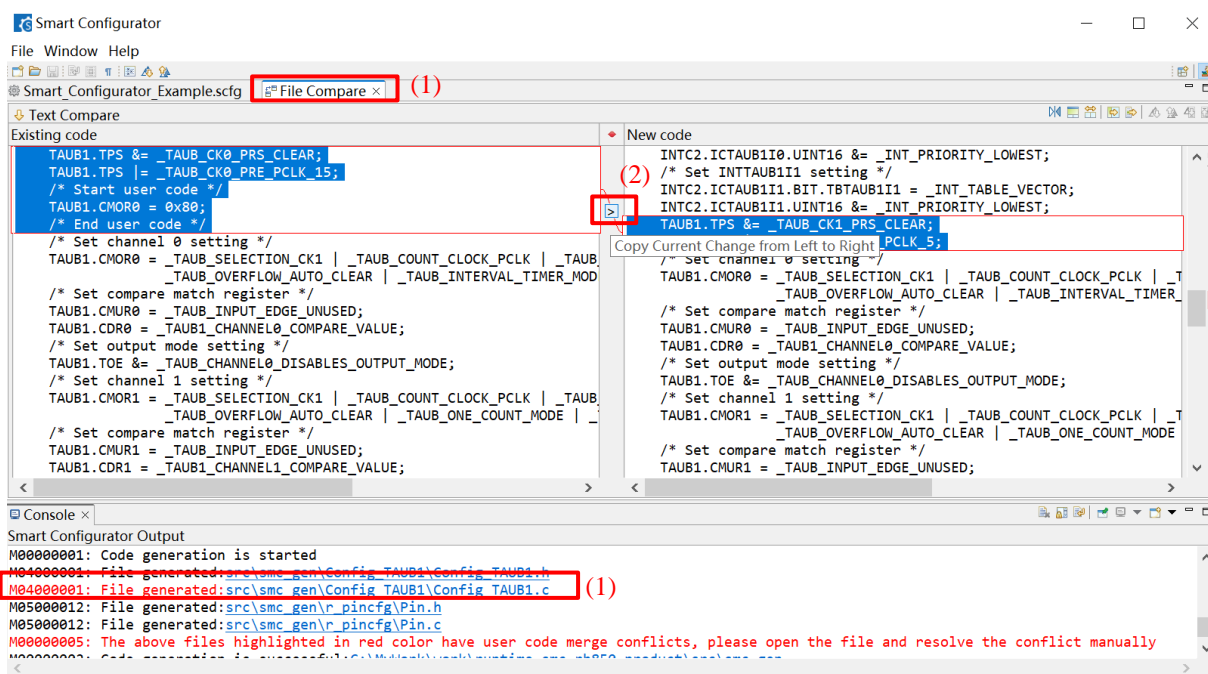

Figure 10-4 Code before resolving bitconf
- 1) Click on the conflicting file in the console to open the “File Compare” view (Figure 10-4 Code before resolving conflict).
- 2) Click on “Copy Current Change from Left to Right” (Figure 10-4 Code before resolving conflict).